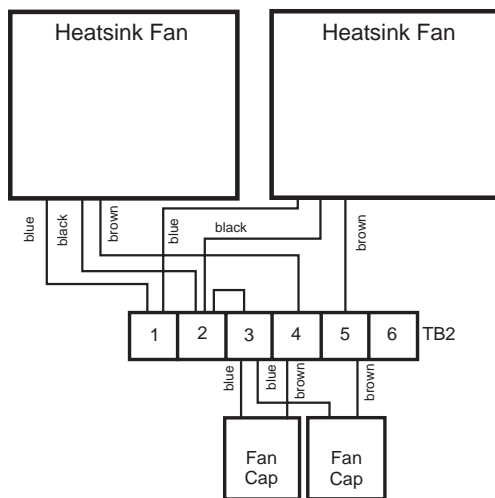

Figure 4.3.52: Heatsink Fan Wiring
7. If only one fan is being replaced, put an identifying mark (such as colored electrical tape) on the fan wire that is connected to terminal 5 near its connection to terminal block TB2 (see Figure 4.3.2 on page 4.3.6). This wire should be reattached to the same terminal during reassembly. Loosen the top screws of terminals 1, 2, 4, and 5 on TB2 and remove the fan wires (see Figure 4.3.52).
11. Reinstall the wires (per Figure 4.3.52 on page 4.3.100). If only one fan was replaced, put the brown wire with the identifying mark in terminal 5. Make sure the jumper between terminals 2 and 3 is in place. Torque the screws to 18 lb-in (2.0 N•m). Secure the two fan wires and the discharge resistor wire to the frame with plastic wire ties.
12. Replace the capacitor(s) for the fan(s) that were just replaced (see Figure 4.3.52). If only one fan is being replaced and if the new fan's brown wire has the identifying mark, replace the capacitor connected to TB2 terminals 3 and 5. Otherwise, replace the capacitor connected to TB2 terminals 3 and 4. The capacitors are located directly below TB2 (see Figure 4.3.2 on page 4.3.6). Loosen the wiring from TB2. Loosen and
- remove the nut securing the capacitor from the bracket. Install the new capacitor and torque the nut to 35 lb-in (3.9 N•m). Reinstall the wiring (per Figure 4.3.52) and torque terminals to 18 lb-in (2.0 N•m).